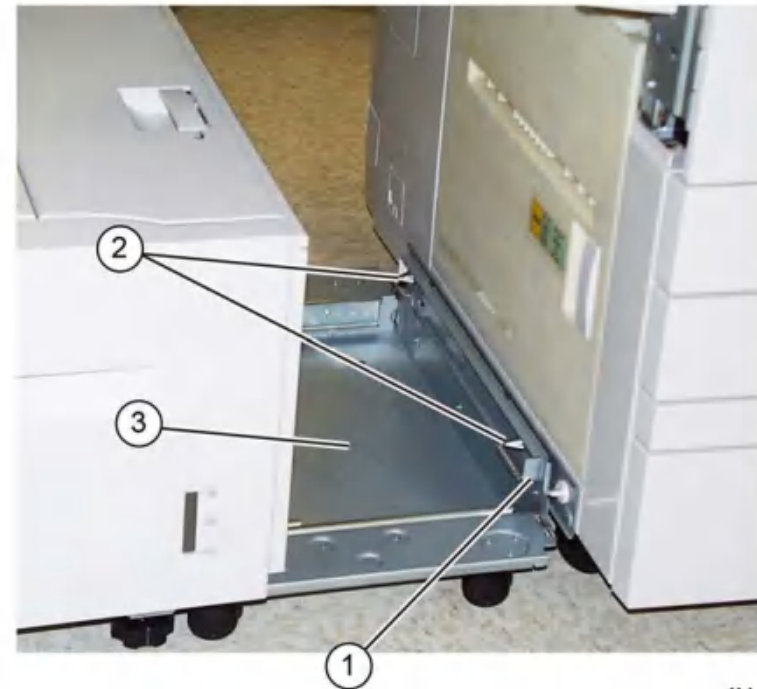

Figure 1 Docking base
3. Release the docking latch spring lever (1) on the right side of the docking base, Figure 1.
1. Align the holes in the HCF docking base (3) with the docking points (2) on the left side of the machine. Refer to Figure 1.